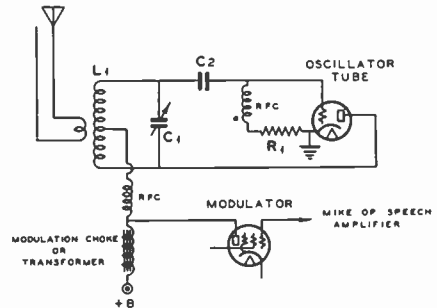

FIG. 3.
- For short range portable operation, self-excited modulated oscillators are widely used. The circuit in Fig. 3 is a typical example of a transceiver and low-power transmitter.